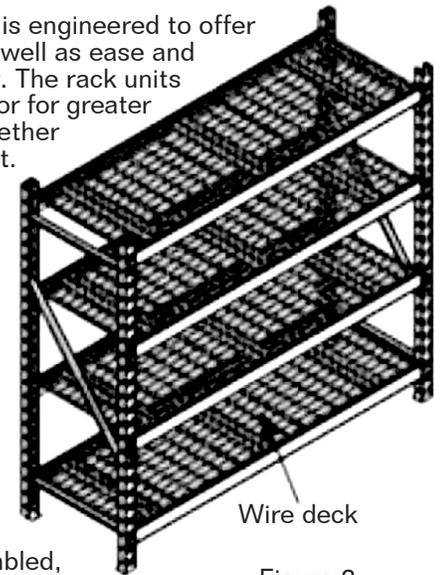

Figure 3
- Insert wire deck on each level (figure 3).